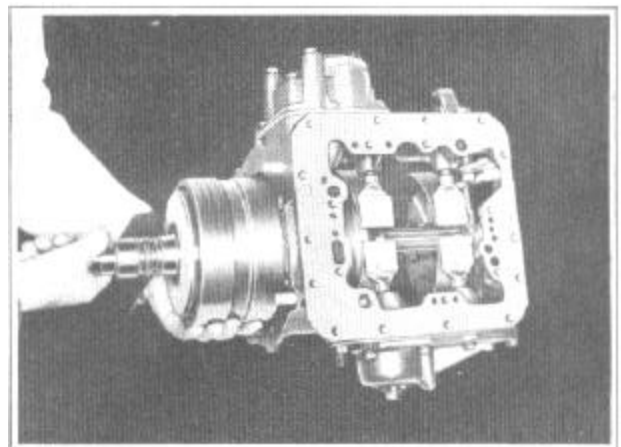

FIGURE 92
11. Pull the mainshaft forward and out of the case, Figure 92, being careful not to disengage the ends of the bands from the band struts or dislodge the bands from the guide at the top of the transmission case, as any cocking of the bands will restrict the removal of the mainshaft assembly.
shaft rear bearing in position on the rear of the mainshaft, insert the mainshaft assembly into the transmission case, Figure 92, threading it through the bands and seating the rear bearing in the bore of the rear face of the case.